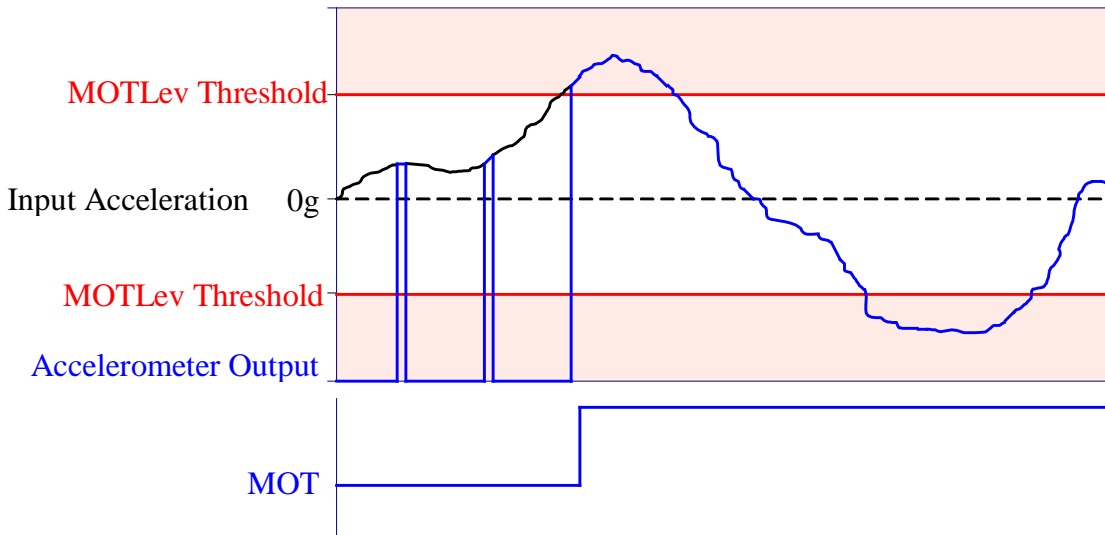

Figure 7 Latched Motion Wake Up Response
MOTLat = 1 - If MOTIen in CTRL_REGB is “1” and a motion event happens, the MOTI bit in CTRL_REGA will be set to “1” and the MOT pin (7) will be pulled high. The part will clear the MOTIen bit in CTRL_REGB and enter full-power mode. To re-enter low power motion wakeup mode, reset the MOTIen bit to “1”. Figure 7 shows the response of the KXSD9 as described above.